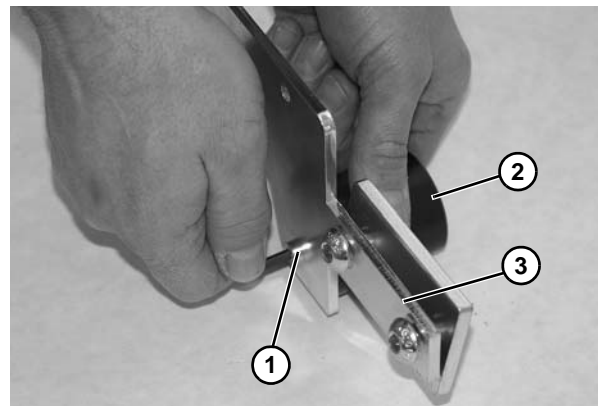

Figure 76
21. Remove socket head screw (**Figure 76, item 1**) holding return rollers (**Figure 76, item 2**) on nose bar backing plate (**Figure 76, item 3**).